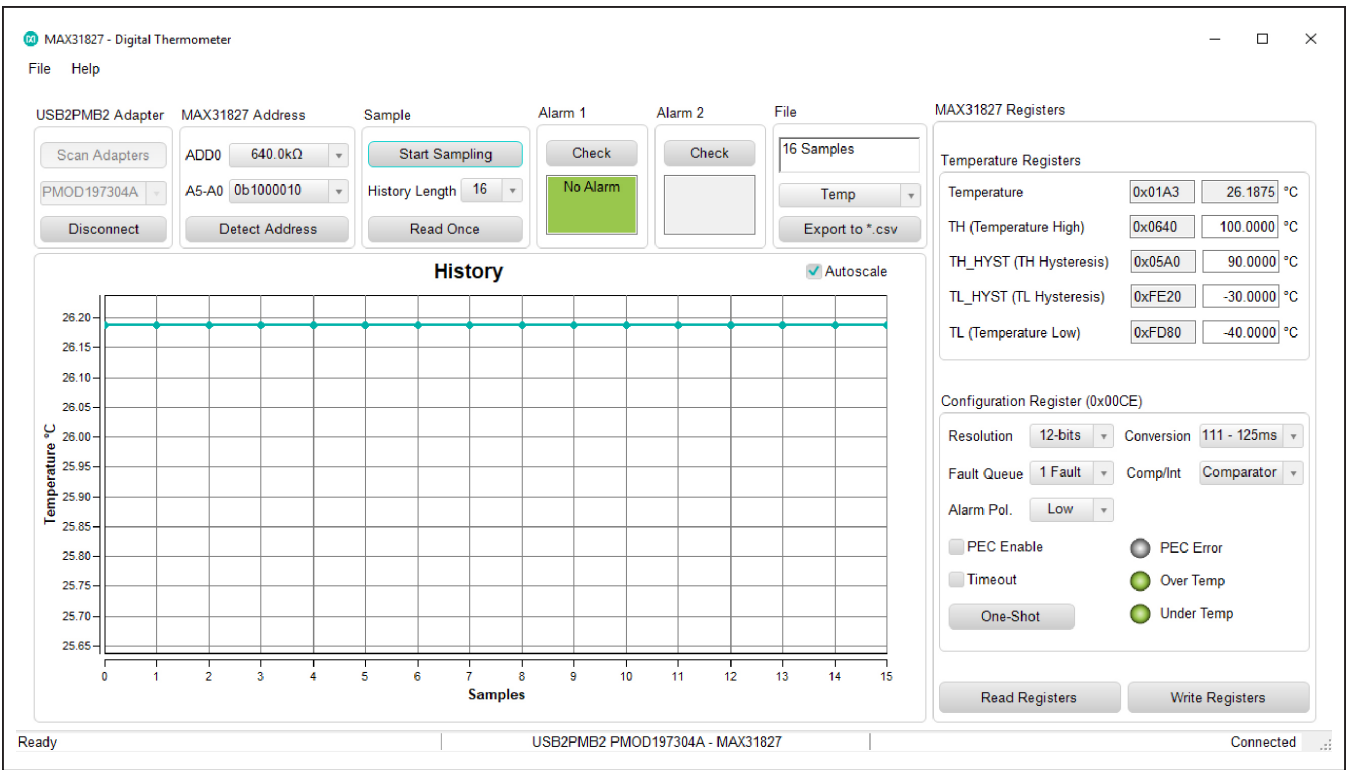

Figure 3. Measuring Temperature on the MAX31827
- 10) Start evaluating the MAX31827 by clicking the **Start Sampling** button. Figure 3 shows the MAX31827 measuring temperature.